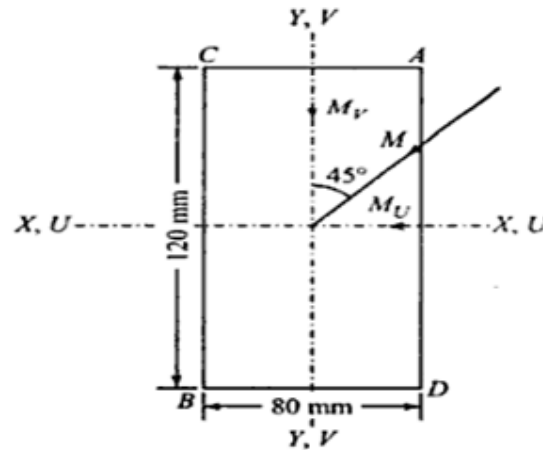

Figure 1
b) A beam of rectangular section, 80 mm wide and 120 mm deep as shown in Figure 1, is subjected to a bending moment of 10 kNm. The trace of the plane of the loading is at 45° to the axis of the section. Locate the neutral axis of the section, and calculate the maximum bending stress induced in section.